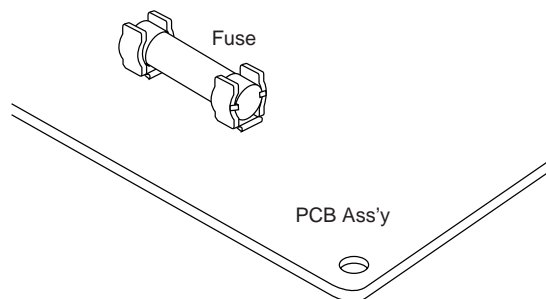

Fig. 5a
Method Used to Replace Fuse on PCB Ass'y (when fuse shape looks like the fuse in either Fig. 5a or 5b)
- (1) Remove the PCB Ass'y from the electrical component box.
- (2) Then pull out the fuse from the PCB Ass'y. (Fig. 5a)